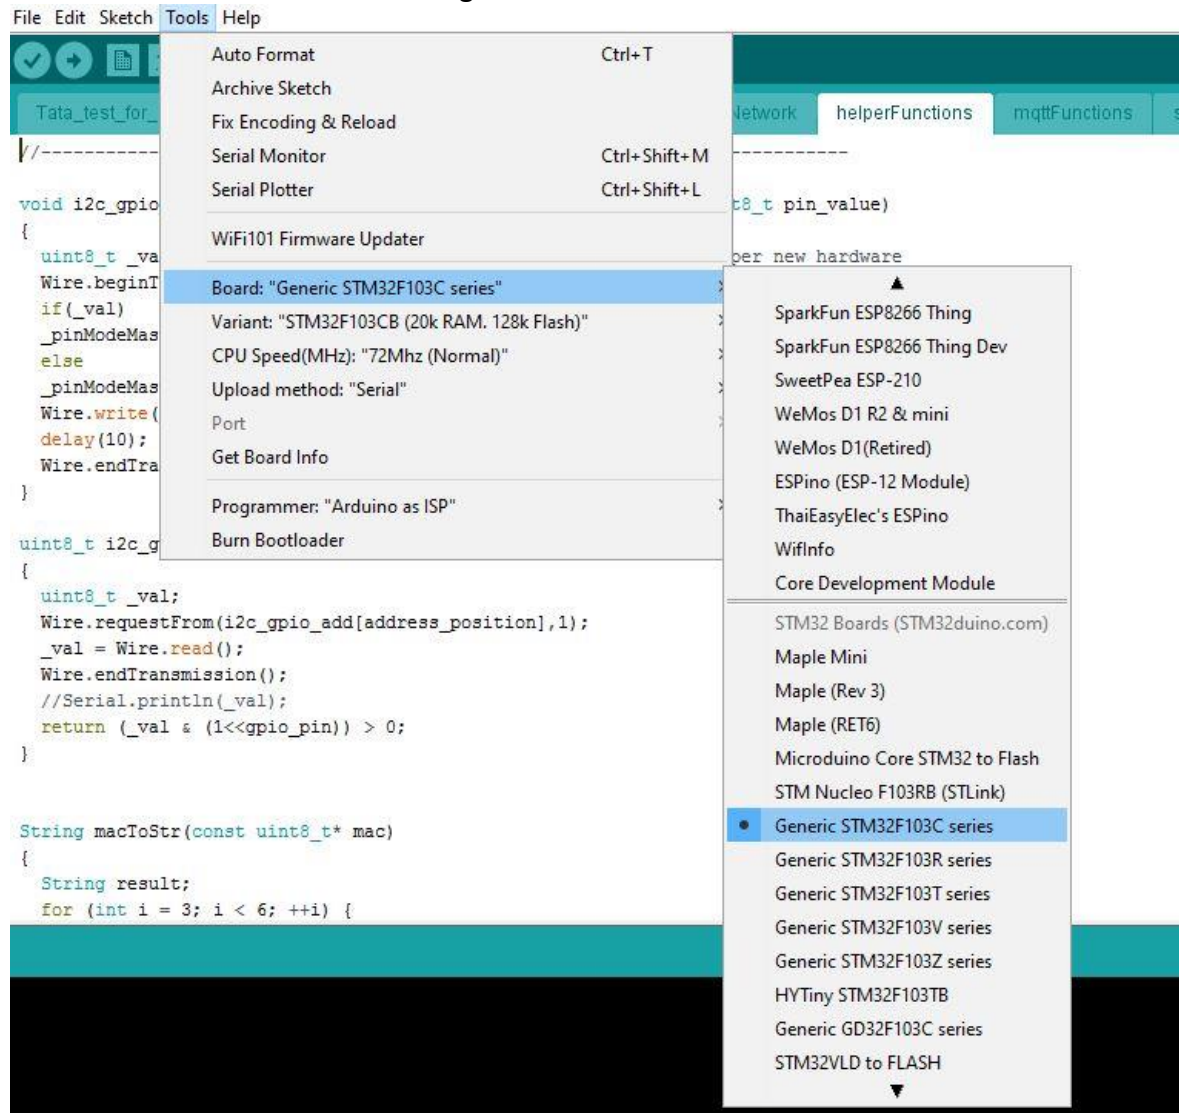

Figure 5: Board Selection
4. Click on Tools Tab, move mouse pointer on "Board: "xxxxxxx" and click on "Generic STM32F103C Series" as shown in figure 5.